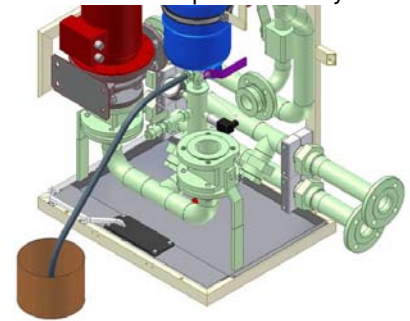

Figure 6.2-5
2. Place an eight (8) litre jar under the valve (if the expansion vessel air nozzle or membrane is broken there might be up to 8 litres in the vessel).
3. Turn the lever (marked violet in Figure 6.2-5) on valve V160 90° so that it points away from you (points towards the back wall). This will close off the primary circuit and therefore only the liquid in the expansion vessel will come out. (There is line mark in the end of the stem, where you can also ensure the right position of the 3-way valve. This mark shows the open flow direction.)